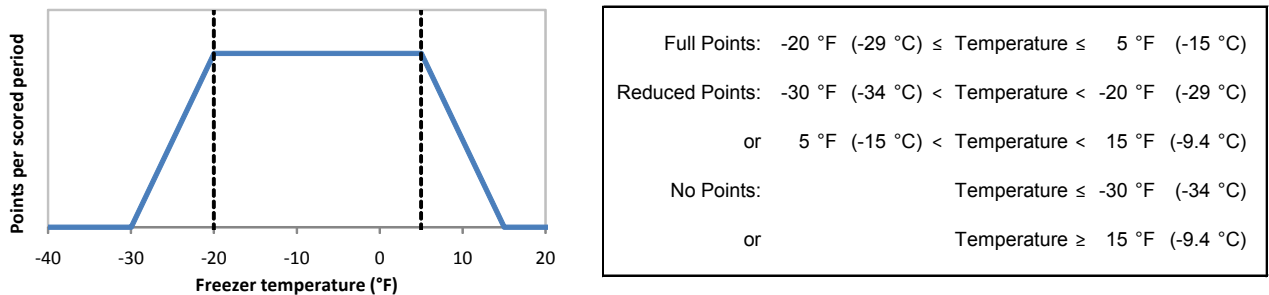

Figure 8: Scoring function for the Freezer subcontest
- Reduced points are earned if the time-averaged interior freezer temperature is between $-30.0\text{°F } (-34.4\text{°C})$ and $-20.0\text{°F } (-28.9\text{°C})$ or between $5.0\text{°F } (-15.0\text{°C})$ and $15.0\text{°F } (-9.44\text{°C})$. Reduced points are scaled linearly, as shown in Figure 8.